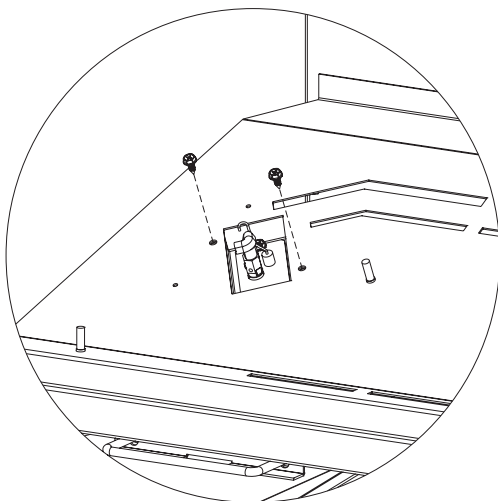

Figure 3
4. Remove (2) screws holding pilot assembly to burner pan. This will allow pilot assembly to drop. (Figure 3)